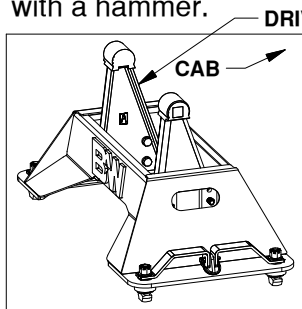
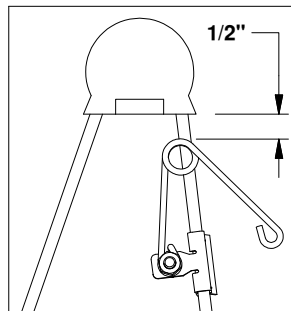

Figure B3: View of base.
Figure B4: Driver side pivot arm.
2. **Attach kit.** Locate the flange which will be closest to the truck cab on the driver side pivot arm, see Figure B3. The clip should be placed so that when the spring's coil is in the line with the edge of the arm there will be 1/2" of clearance between the bottom of the polyurethane bushing and the top of the spring, see Figure B4. Drive the clip securely onto the flange with a hammer.